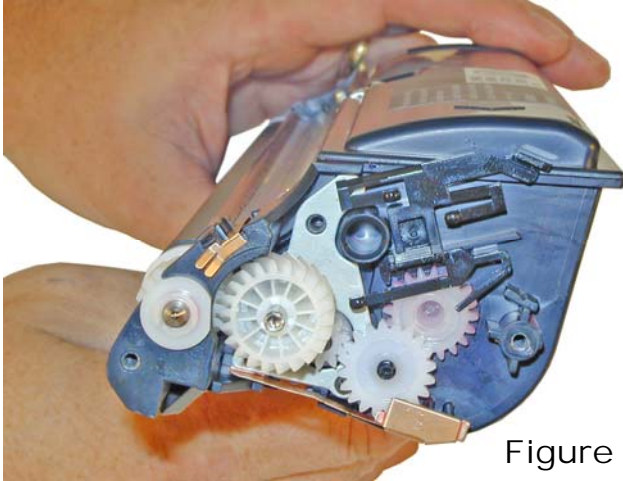

Figure 33
26) Install the black reset assembly so that the gears mesh, and the u-shaped section of the assembly is against the round post. If the assembly is set further out, the printer will not be reset. See **Fig. 33**